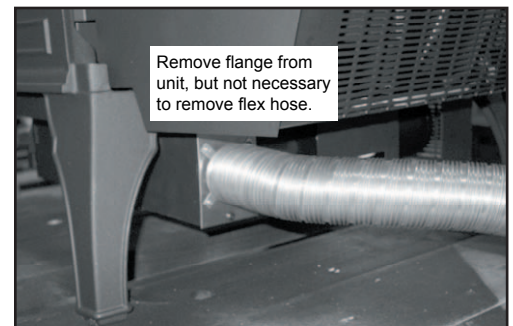

Figure 29.4
- The convection blower is located at the bottom rear of the stove. If an outside air kit is also installed, you will first need to remove the outside air flange by removing the 2 screws using a Phillips head screwdriver. You do not need to remove the flex pipe from the flange. **Figure 29.4.**